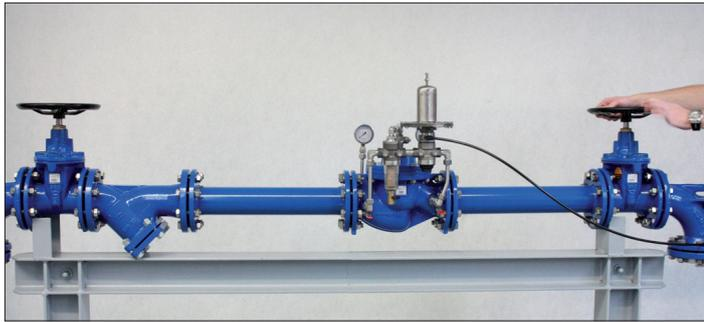

Figure 36: Complete opening of the upstream pressure shut-off valve and partial opening of the downstream-pressure shut-off valve
- Open the upstream pressure shut-off valve completely. Then partly open the downstream-pressure shut-off valve (see Figure 36) with 2 – 4 turns.